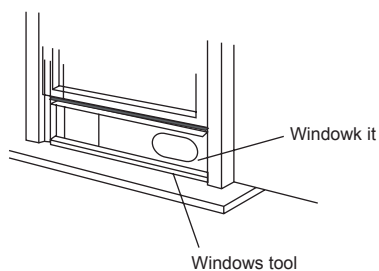

FIG.10
- 3 Cut the foam seal (adhesive type) to the proper length and attach it on the top of the window. Show as in Fig. 10.